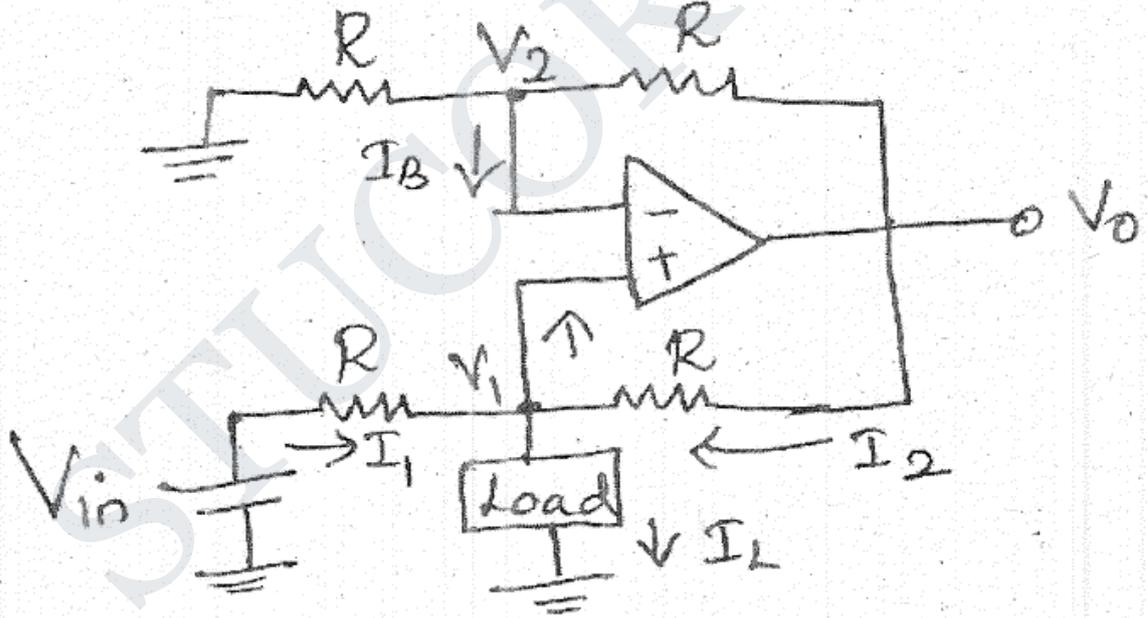

Figure 3
2. For a V-I converter shown in figure 3, $V_{IN} = 5 \text{ V}$, $R = 10 \text{ k}\Omega$ and $V_1 = 1 \text{ V}$, find the load current and output voltage V_O . Assume the op-amp is initially nulled (6)